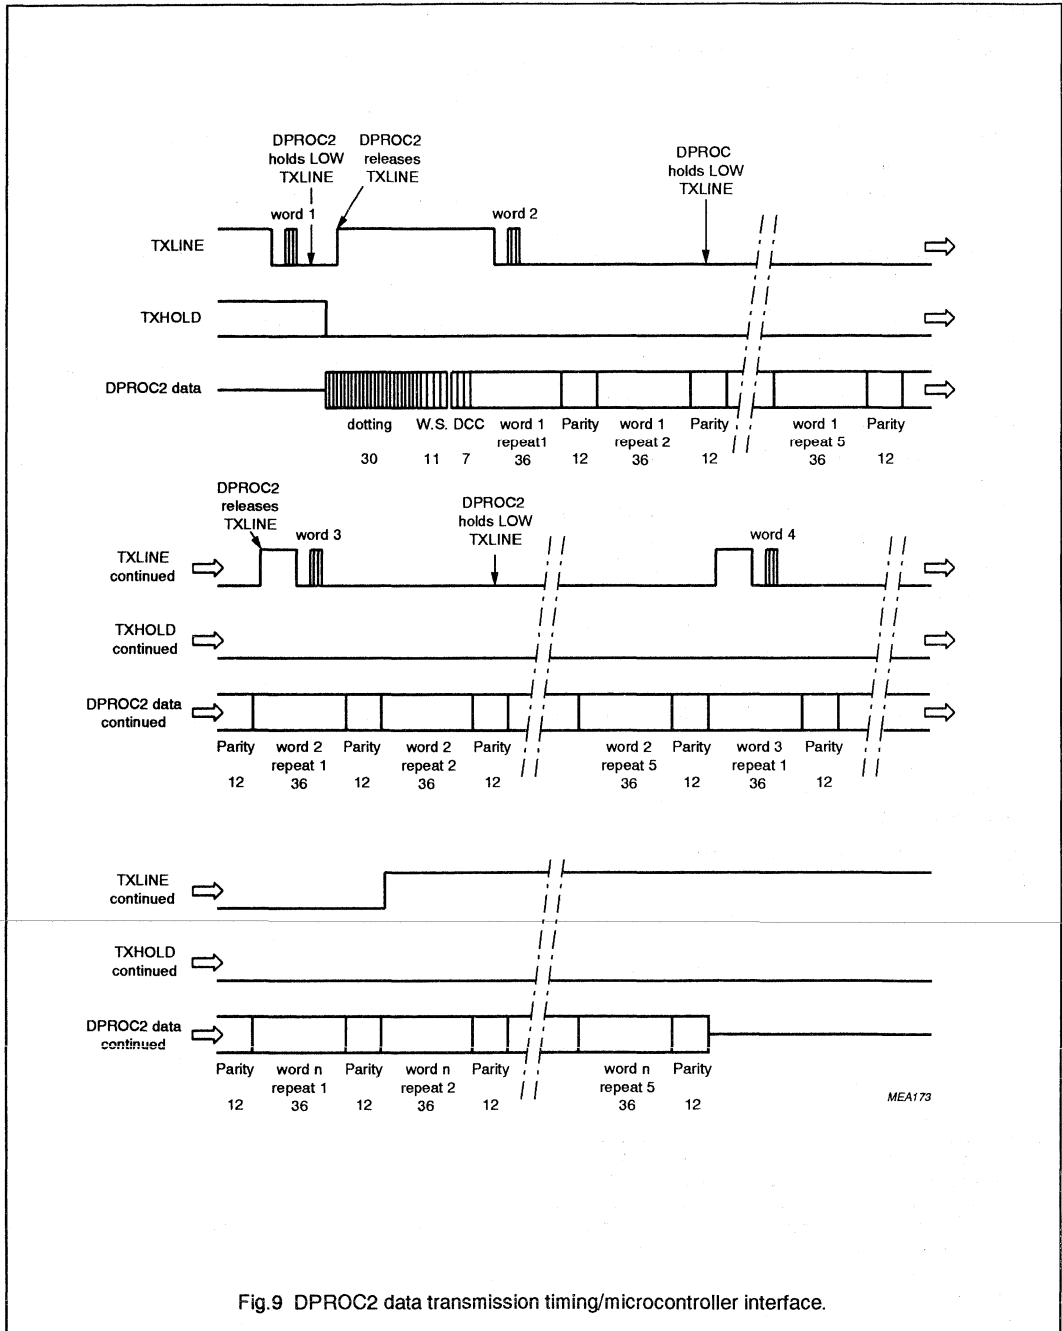

Fig.9 DPROC2 data transmission timing/microcontroller interface.
(1) At stage 1 the system controller may choose to preload DPROC2 with the first word of the message and hold it from transmission until stage 7 using the TXHOLD line. This gives a lower time overhead between detecting an IDLE channel and commencing the transmission. To use this feature TXHOLD must be driven HIGH before the last bit of data has been transferred into DPROC2. Figure 9 illustrates the DPROC2 data transmission timing.